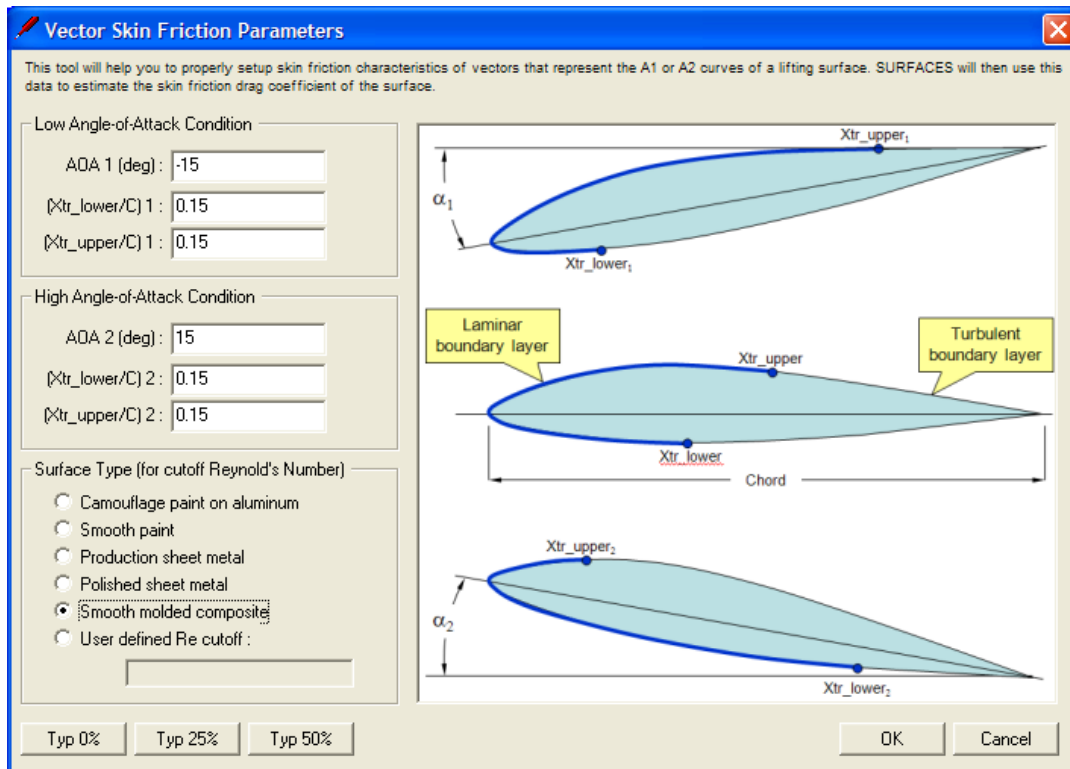

Figure 9-11: Entering transition information for the wing tip in Step 9.11.
STEP 9.11 Select **Tools->Distribute Laminar Transition for Selected Vectors...** from the worksheet. Enter the information shown in Figure 9-11.